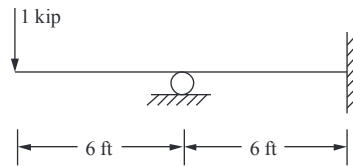

Figure P4-33
- 4.33 Select a rectangular structural tube from Appendix F to support the loads shown for the beam in Figure P4-33. The allowable bending stress should not exceed 24 ksi.